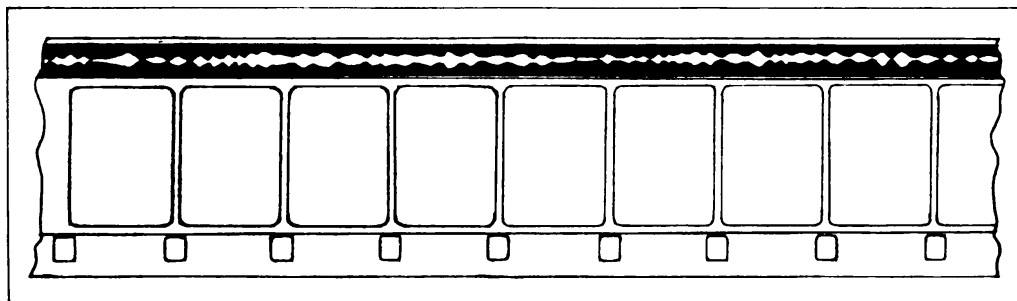

Figure 13—Sound Track on 16 mm. Film
*a.* The sound track on the film consists of a narrow path near the edge of the film opposite the sprocket holes. This path has been exposed over part or all of its width depending upon the variations in the sound that was recorded. The exposed portions of the path are light, while the unexposed portions are dark. See Figure 13 for a pictorial representation of the sound track. A sound track of this type is known as a variable area track.